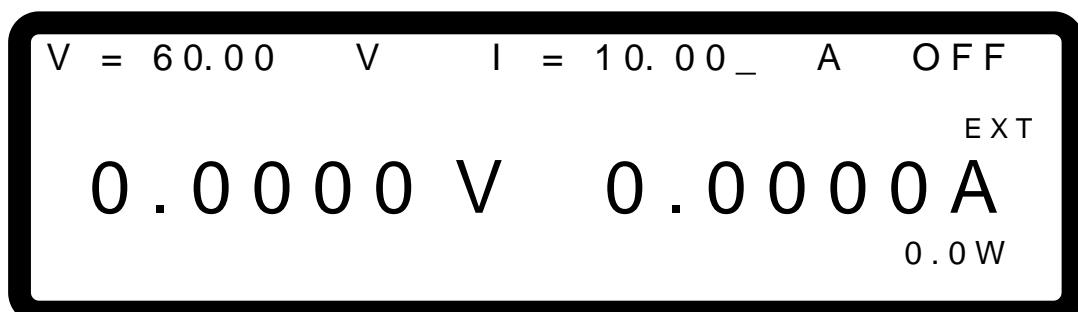

Figure 3-82
3. When EXT. ON/OFF is enabled, the MAIN PAGE will display the EXT message as shown in Figure 3-82.